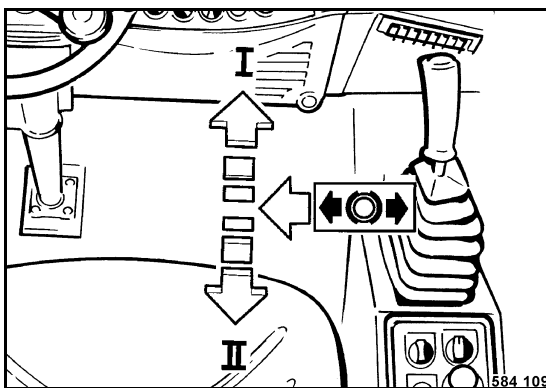

Fig. 95
- Shift the travel lever (Fig. 95) fully to position "I".